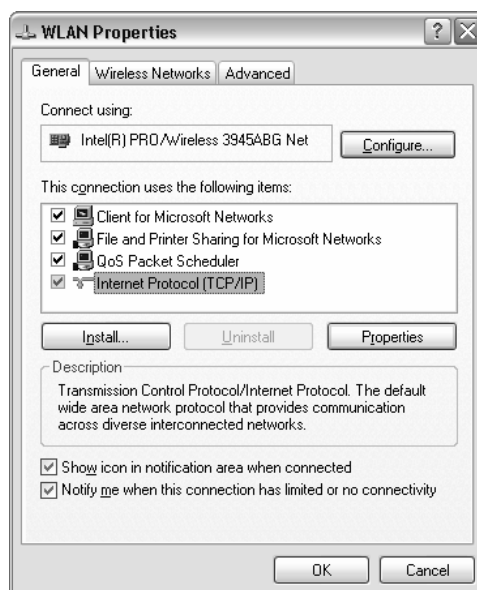

Figure 8. Internet protocol properties
3. Choose the properties of internet protocol as shown in *Figure 8*: